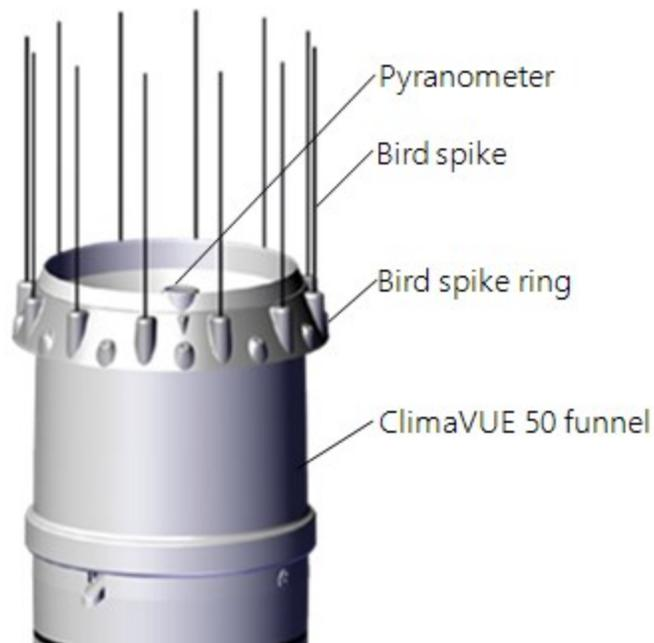

Figure 7-7. Bird-spike kit mounted properly
- Position the ring on top of the ClimaVUE 50 with the pyranometer aligned with the triangle between two spikes (Figure 7-7 (p. 21)); this will limit spike shadows on the sensor.
7. Press finished bird deterrent onto the ClimaVUE 50 funnel to at least the depth shown in Figure 7-7 (p. 21).